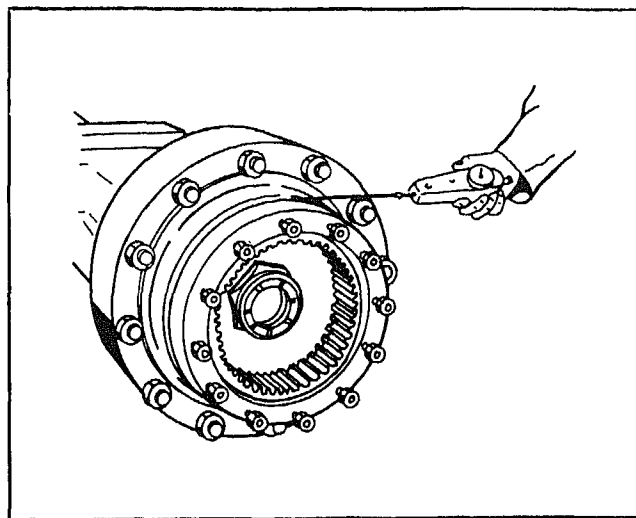

Fig. 107 Checking Wheel Bearing Preload
If Wheel Bearings are New, check the rotating torque with a pull scale and cord. Wrap the cord around the hub and hook the spring scale on the end of the cord. (Refer to Fig. 107). Check the pull necessary to cause the wheel to continue (not start) rotation. Force required to keep wheel rotating must be between 11 and 17 pounds (6 to 10 lb. ft. torque on the front axle and 9 to 15 lb. ft. torque on the rear axle.) Advance the wheel nut in small increments until the proper bearing preload is attained. Install the adjusting nut lock (25).